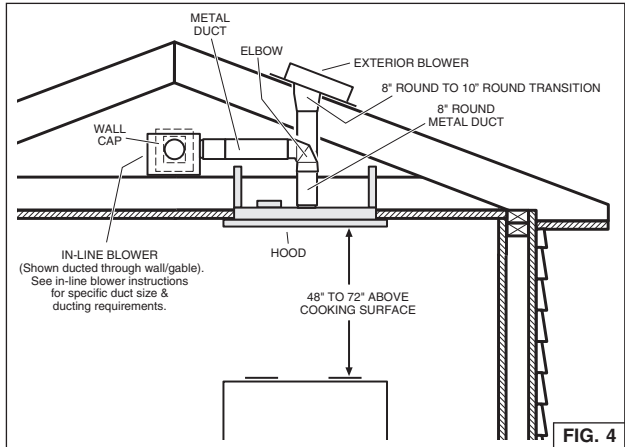

FIG. 4
1. Choose the location of the hood, exterior or in-line blower and any roof or wall caps, and decide where the ductwork will run. See Fig. 4 and exterior or in-line blower instructions for suggestions.
The hood should always be centered over the cooktop. Make sure there is adequate space in the ceiling structure to install the hood and ductwork. The hood should be mounted 48" to 72" above the cook top for best removal of cooking impurities. Fig 4.